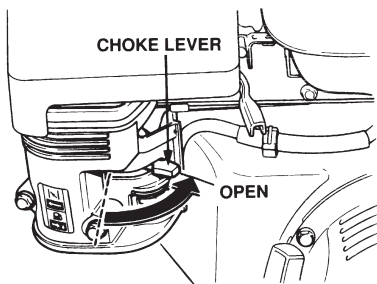

Figure 27. Engine Choke Lever (Open)
8. After the engine has warmed, place the choke lever in the **OPEN** position (Figure 27) before operating the screed.